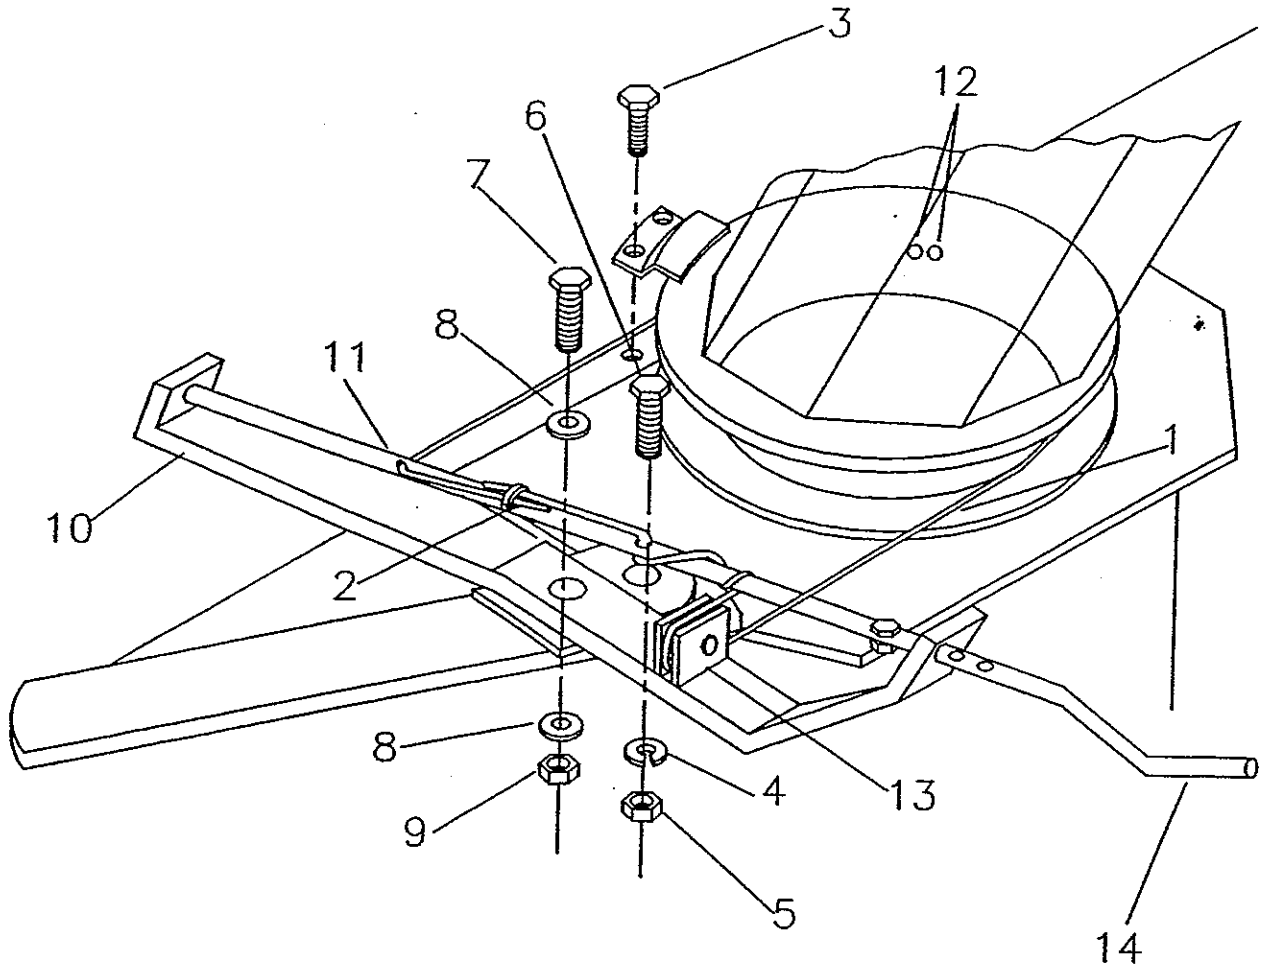

FIGURE 3
1. Grease base of chute. Install chute over base of snowblower. Install three retaining plates using six 1/2" x 1" bolts (fig.3,item 3), lockwashers and nuts (fig.3,item 4-5).
2. Install manual rotation bracket (fig.3,item 10) on flatbar, left of chute. Secure with a 5/8" x 2 1/2" bolt (fig.3,item 7), two 11/16" flat washers (fig.3,item 8) and nylon lock nut (fig.3,item 9) on the left side, and 1/2" x 1 3/4" bolt (fig.3,item 6) with lockwasher and nut (fig.3,item 4-5) on the right side.
3. Tape ends of cable (fig.3,item 1) with electrical tape to keep ends from fraying.
4. Pass the cable through the rotation tube (fig.3,item 11) keeping 8" spare and locking temporarily with the cable clamp (fig.3,item 2).
6. Pass the cable through the two small holes (fig.3,item 12) of the base of the chute, with a in and out motion.
7. Continue to route the cable by passing under the pulley (fig.3,item 13).
8. Turn the chute in the opposite direction (same previous angle) by turning the rotation handle (fig.3,item 14) (counter clockwise) keeping a proper cable tension with the free hand.
9. Detach the cable clamp (fig.3,item 2). Replace between the two holes securing the two ends of the cable. Be sure the ends of the cable are under proper tension.